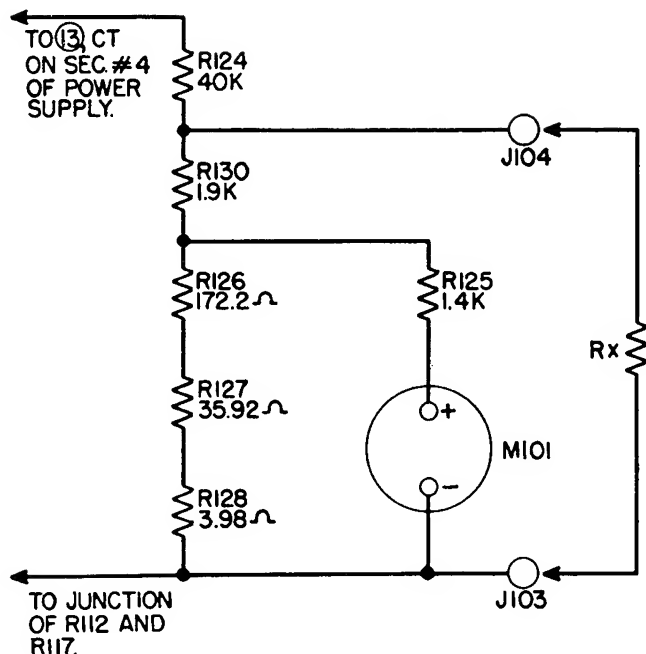

Figure 2-10. Simplified Ohmmeter Circuit for Ohms X1 Range
(2) The MASTER switch S112 connects the jack J104 to the proper tap of the series resistors for the voltmeter range selected.
(3) For ac volts, the copper oxide rectifier CR101 is connected into the voltmeter circuit, by operating the switch S114 to the proper position.
b. OHMS X1 and X100. (See Figures 2-10 and 2-11)
(1) The ohmmeter section consists of two ranges, ohms X1 and ohms X100. Each has a voltage divider network selected by the MASTER SWITCH S112, which also connects the meter across part of the voltage divider, so that it reads INF. or full scale when a standard voltage is applied by setting LINE ADJUST control R113.
(2) The unknown resistance is connected to the test jacks J103 and J104, which parallels part of the divider network, changing the effective resistance of the divider.
(3) The meter scale indicates ohms directly.